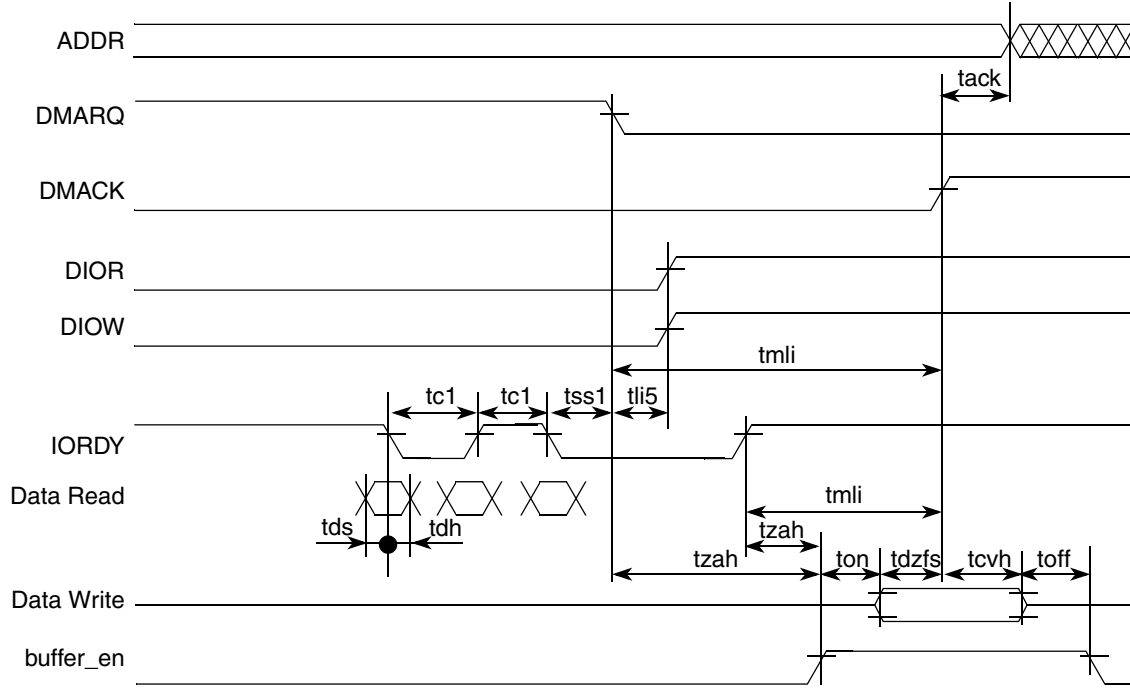

Figure 29. UDMA In Device Terminates Transfer
- Figure 29 gives timing for device terminating UDMA in transfer.